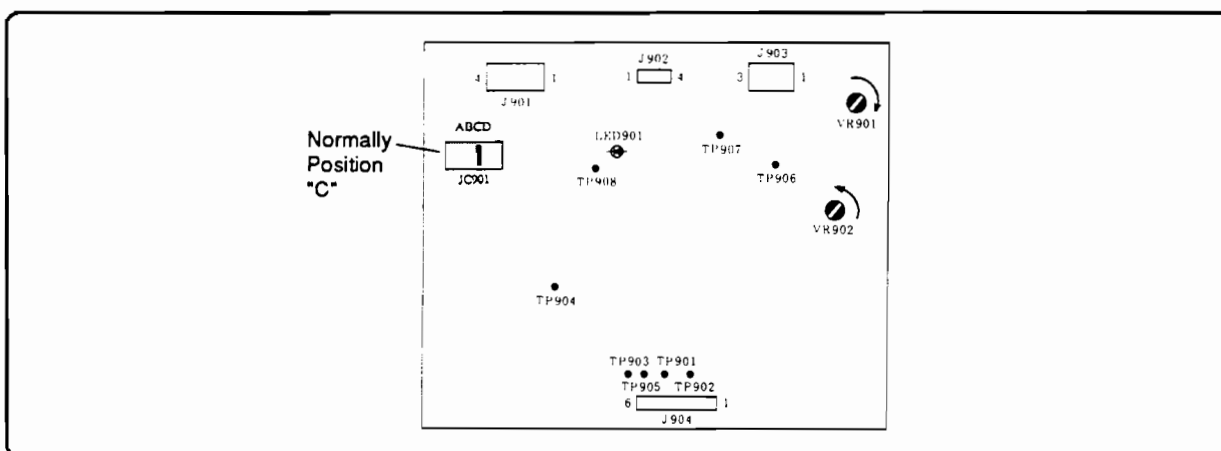

Figure 6-49. VR901 & VR902 (Laser Driver PCA)
9. With power OFF, preset the Laser Driver PCA by turning VR902 (Rough Laser Power) fully counterclockwise (or minimum). Turn VR901 Fine Laser Power fully clockwise (or maximum) until it clicks (see Figure 6-49).